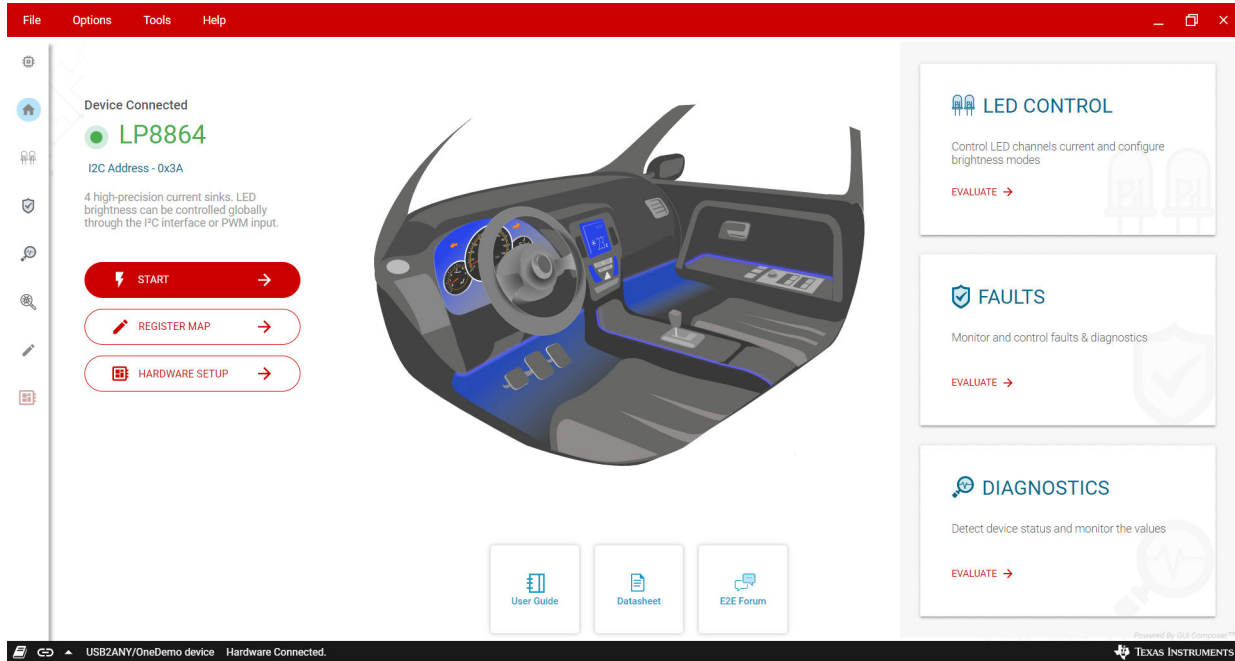

Figure 2-4. LP8864EVM GUI Home Page
3. Click the **EXPLORE LP8864** button to go to the LP8864EVM GUI home page (see Figure 2-4).